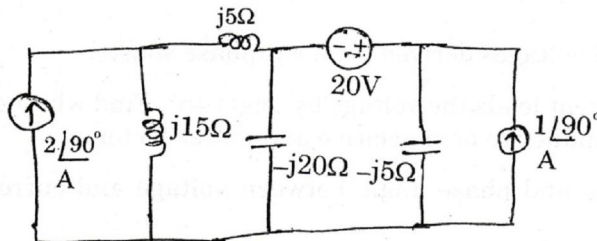

Fig. 12. a)
12. a) State superposition theorem and apply to the circuit shown in Fig. 12. a) to find the voltage across $-j20\Omega$ capacitor.